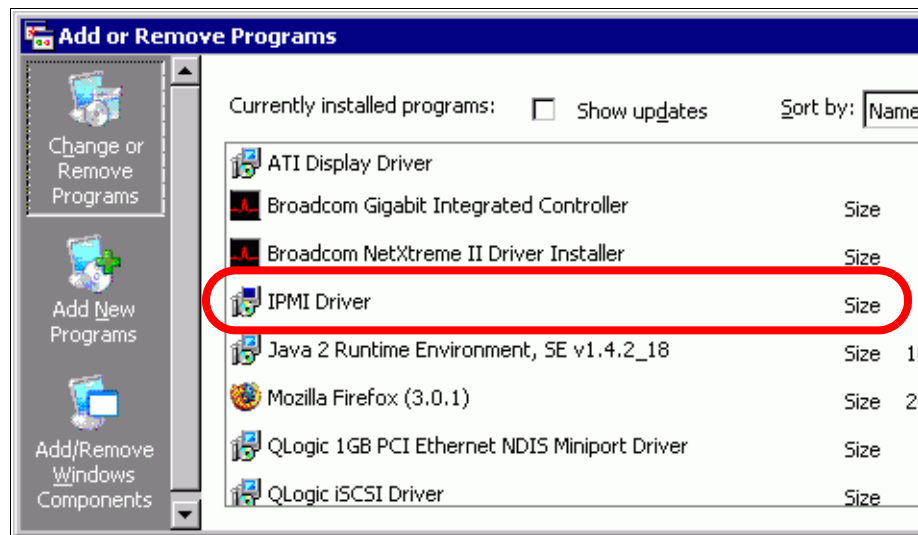

Figure 6-8 Windows 2003 utility for adding or removing programs
1. Click **Start** → **Settings** → **Control Panel** → **Add or Remove Programs**. The window shown in Figure 6-8 opens.